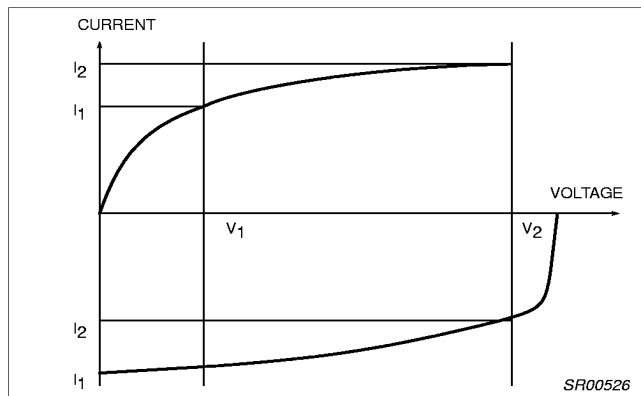

Figure 3. Relative Output Current Variation
1. The relative output current variation is defined thus:  $\frac{\Delta I_{OUT}}{I_{OUT}} = 2 \cdot \frac{(I_2 - I_1)}{I(I_2 + I_1)}$ ; WITH  $V_1 = 0.7V$ ,  $V_2 = V_{CCCP} - 0.8V$  (see Figure 3).